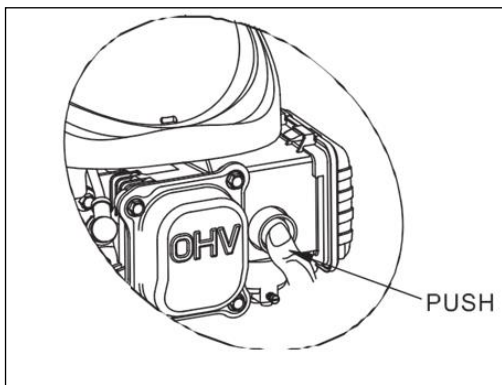

Fig. 2A
a) Push the red primer bulb 3-5 times. (Fig.2A)